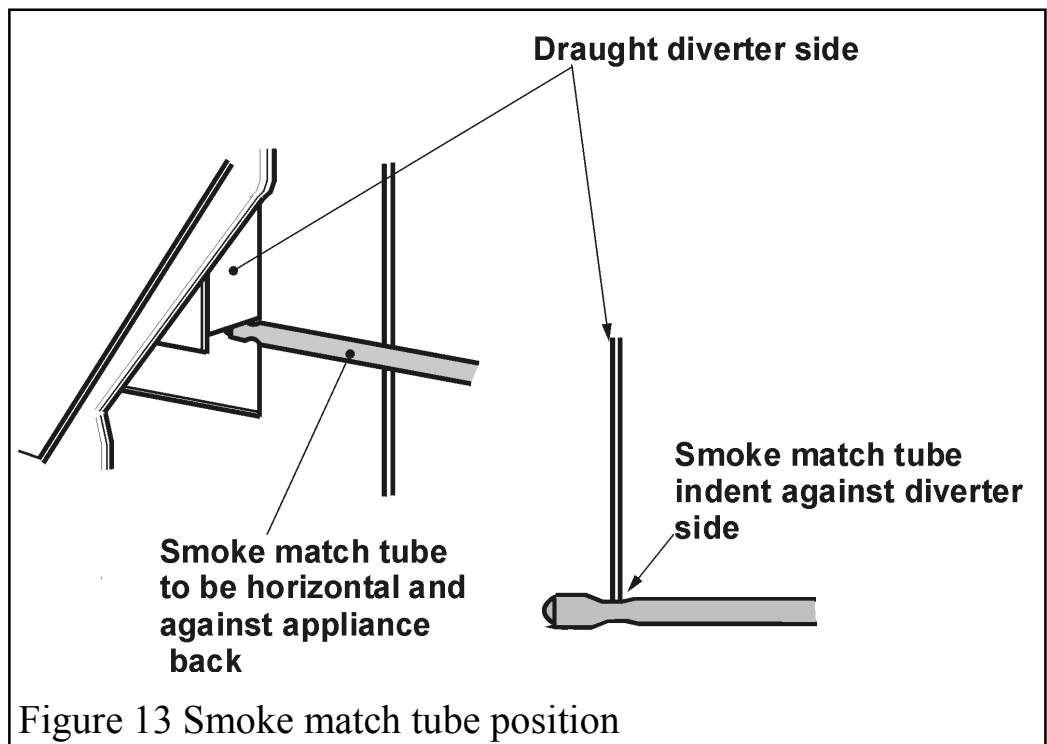

Figure 13 Smoke match tube position
5.3.4 Insert the smoke match tube (with lighted match) into the side of the appliance and against the back panel. Position the tube so that it is horizontal, against the back panel and with its top edge touching the side of the draught diverter box. Slide the tube until the indent in the tube is level with the diverter side. See figure 13.